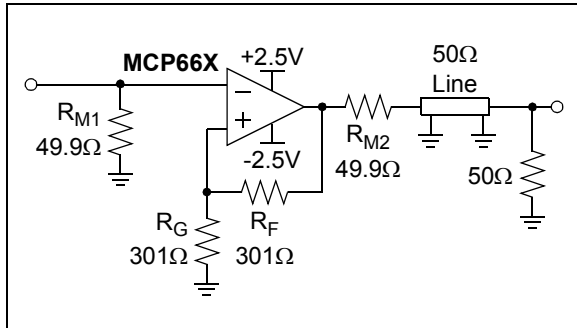

FIGURE 4-10: 50Ω Line Driver.
Differential gain (DG) and differential phase (DP) refer to the non-linear distortion produced by an NTSC or a phase-alternating line (PAL) video component. Table 1-2 and Figure 2-34 show the typical performance of the MCP661, configured as a gain of +2 amplifier (see Figure 4-10), when driving one back-matched video load (150Ω , for 75Ω cable). Microchip tests use a sine wave at NTSC's color sub-carrier frequency of 3.58 MHz, with a $0.286V_{P-P}$ magnitude. The DC input voltage is changed over a $+0.7V$ range (positive video) or a $-0.7V$ range (negative video).
Figure 4-10 shows the MCP661 driving a 50Ω line. The large output current (e.g., see Figure 2-18) makes it possible to drive a back-matched line (R_{M2} , the 50Ω line and the 50Ω load at the far end) to more than ±2V (the load at the far end sees ±1V). It is worth mentioning that the 50Ω line and the 50Ω load at the far end together can be modeled as a simple 50Ω resistor to ground.